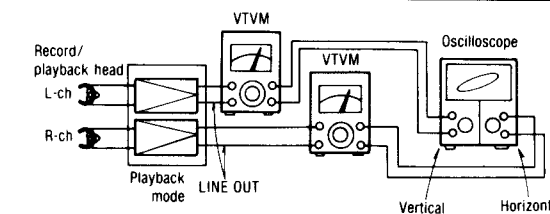

Fig. 5
- Make connections as shown in fig. 5.